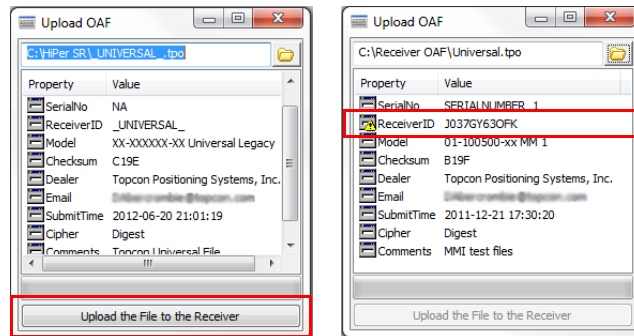

Figure 12: OAF Compatibility Check
- Press **Upload the File to the Receiver** (Figure 12) to start loading the file.